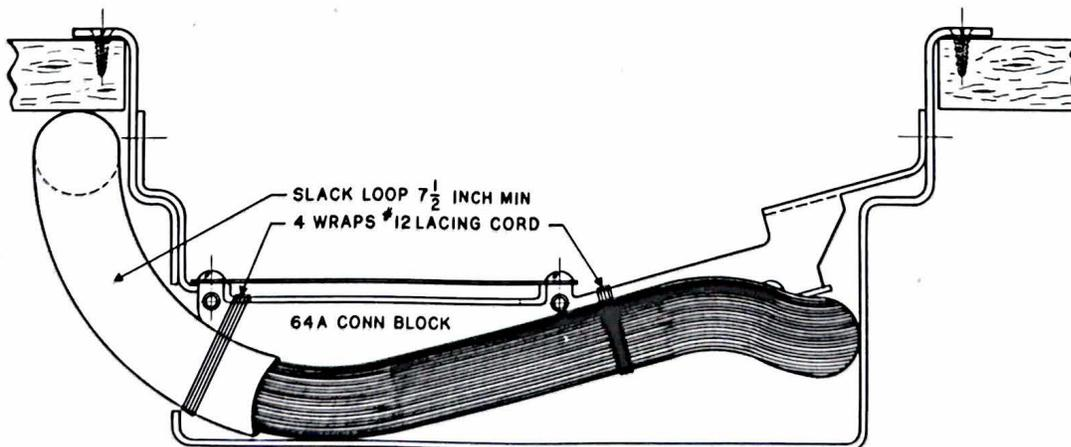

Fig. 16 — Cabling, 404A Mounting
5.06 Fig. 16 illustrates a method of forming the cables on the 64A connecting blocks.